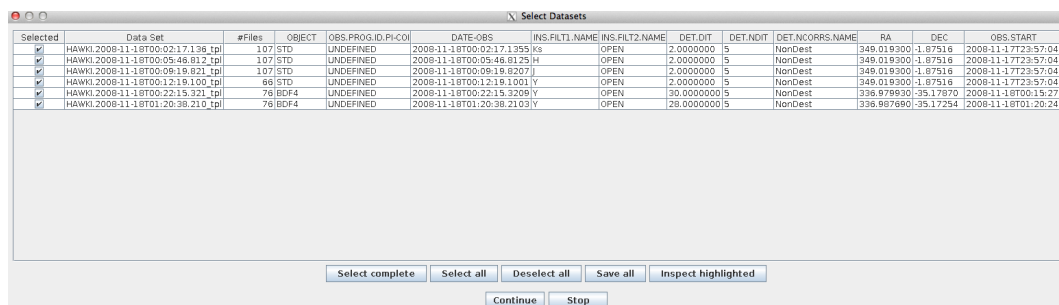

Figure 6.3: The “Select Datasets” pop-up window.
7. The `Data Set Chooser` actor will be highlighted next and will display a “Select Datasets” window (see Figure 6.3) that lists the datasets along with the values of a selection of useful header keywords⁵. The first column consists of a set of tick boxes which allow the user to select the datasets to be processed. By default all complete datasets which have not yet been reduced will be selected. A full description of the options offered by the `Data Set Chooser` will be presented in Section 8.3.2.